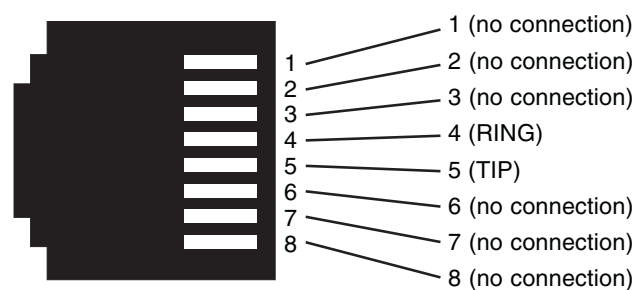

Figure 12. RJ-45 pin-out
3. The RJ-45 connector on the CL1200E's twisted pair interface is polarity insensitive and is wired for a two-wire interface. The signal/pin relationship is shown in (see figure 12).